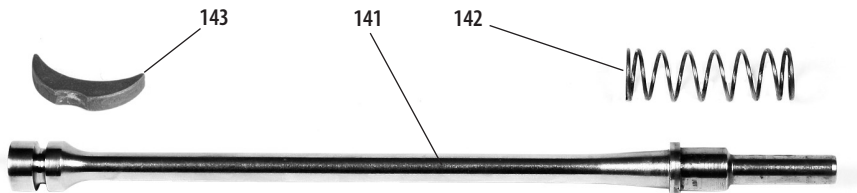

Fig. 7 *Piston with spring*
**Piston 141** (Fig. 7) transmits the kinetic energy of a portion of the powder gases produced by the combustion of the powder charge in the barrel to the bolt carrier. The front part of the piston has a cylindrical head with a circumferential groove for better packing of gases in the gas cylinder and for deposition of burnt powder remainders. The rear part of the piston is thickened and forms a guide for piston spring 142, whose one end is leaning against the face of the rear sight base recess and the other end has the collar which, together with the stop in the rear sight base recess, limits the piston forward motion. The transition of the cylindrical reinforcement into the guide part of the piston is of a conical shape; this conical surface limits piston motion by bearing against the corresponding surface of the rear sight base. The piston spring causes the piston to return from the rear position once again to the starting position (i.e. to the front position).